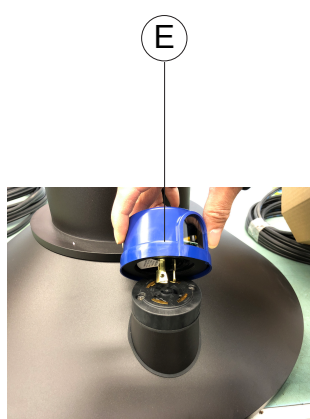

Fig. 4
- 10) Fit the NEMA cell **E** to its base as shown in Fig. 4.
- 16) Fit the NEMA cell **E** to its base as shown in Fig. 4.